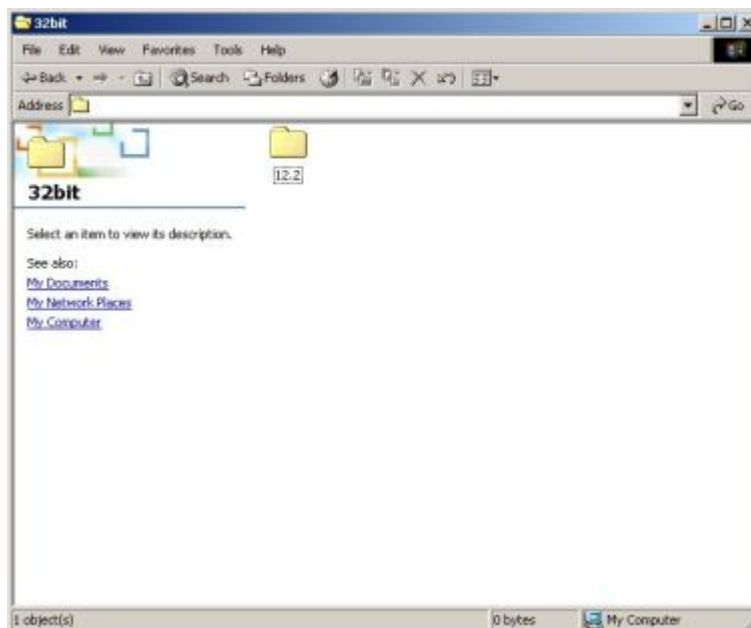

Figure 7-32: Driver Directory
Step 8: The window in Figure 7-32 appears.
Step 10: A window containing the Intel® 82573 driver startup icon appears. See **Figure 7-32**.